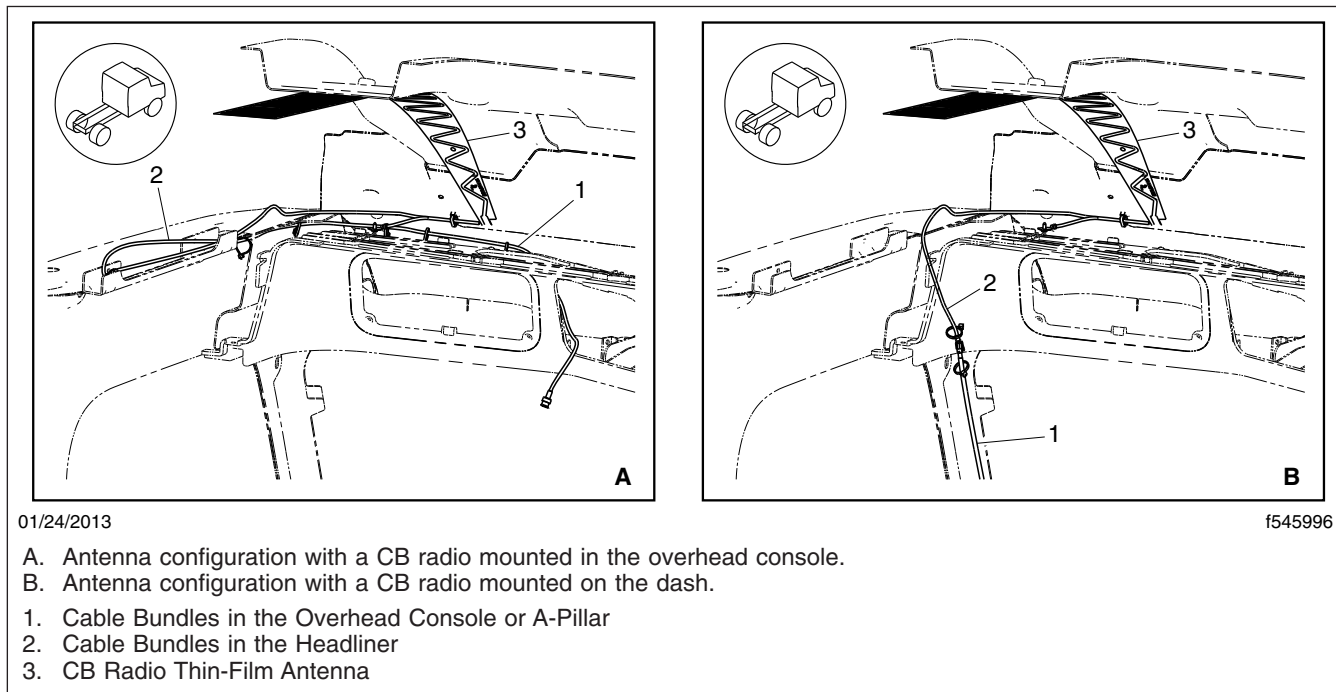

Fig. 9, Thin-Film Antenna, CB Radio on Vehicles without a Raised Roof
- See Fig. 9 for CB radio antennas mounted on vehicles without a raised roof.